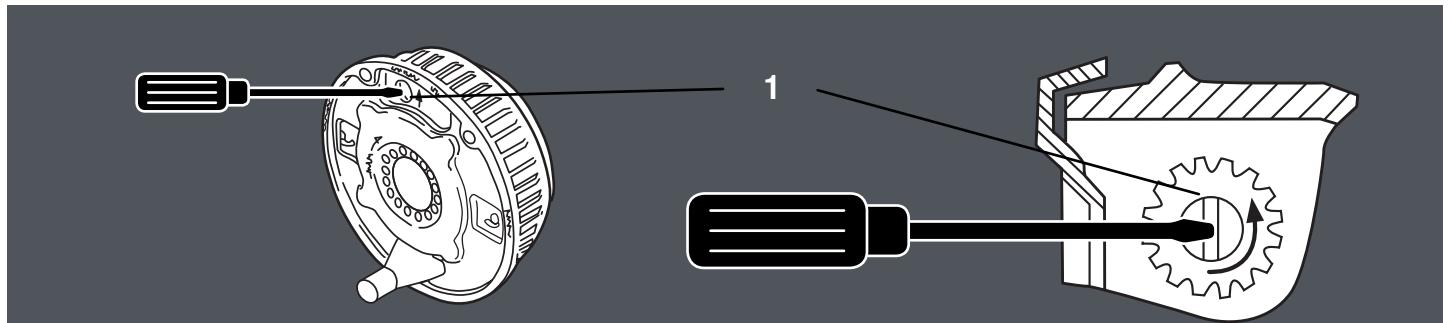

Fig 12 Adjusting the Starwheel
5. ALWAYS rotating the road wheel in the forward direction - NEVER backwards; adjust the starwheel with a suitable screwdriver, in the direction of the arrow embossed on the backplate until there is resistance in the wheel rotation. (Fig 12).
6. Slacken off the starwheel adjuster until the road wheel turns freely in the FORWARD direction. (Fig 12).